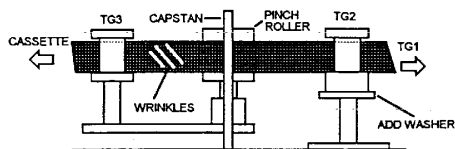

Figure 11
**Remedy:** Raise the T2 guide using a 0.13 mm thick washer supplied in the kit (see Figure 11).